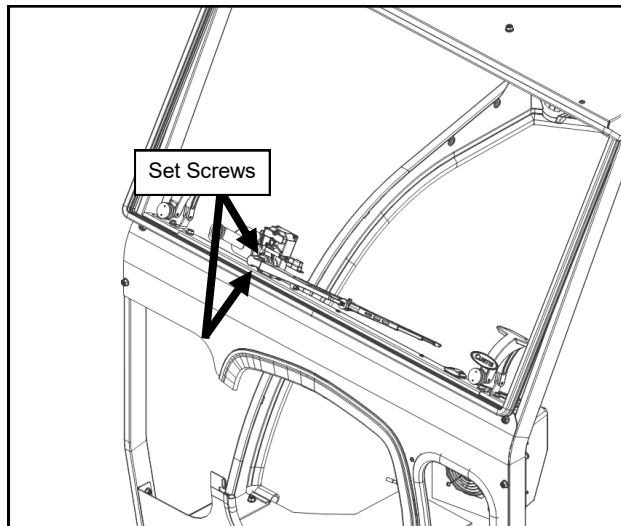

Fig. 18.3 (Wiper Arm and Blade)
18.3 Install the wiper arm onto the wiper motor so that the wiper is horizontal. See Figure 18.3. Tighten the Allen Screws.